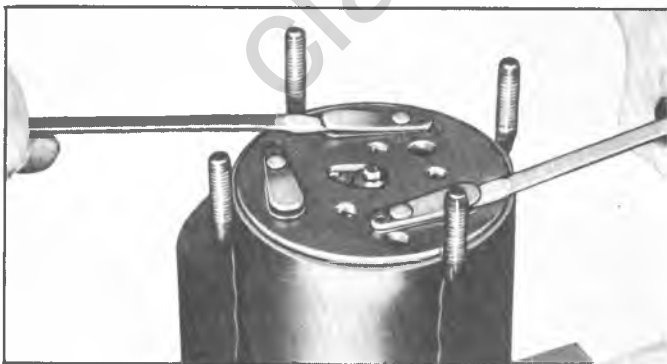

Fig. 14--Removing Rear Discharge Valve Plate
7. With two screw drivers, carefully pry up on the rear discharge valve plate assembly (fig. 14). Check for broken reeds or damaged seats and replace entire assembly if such is found.